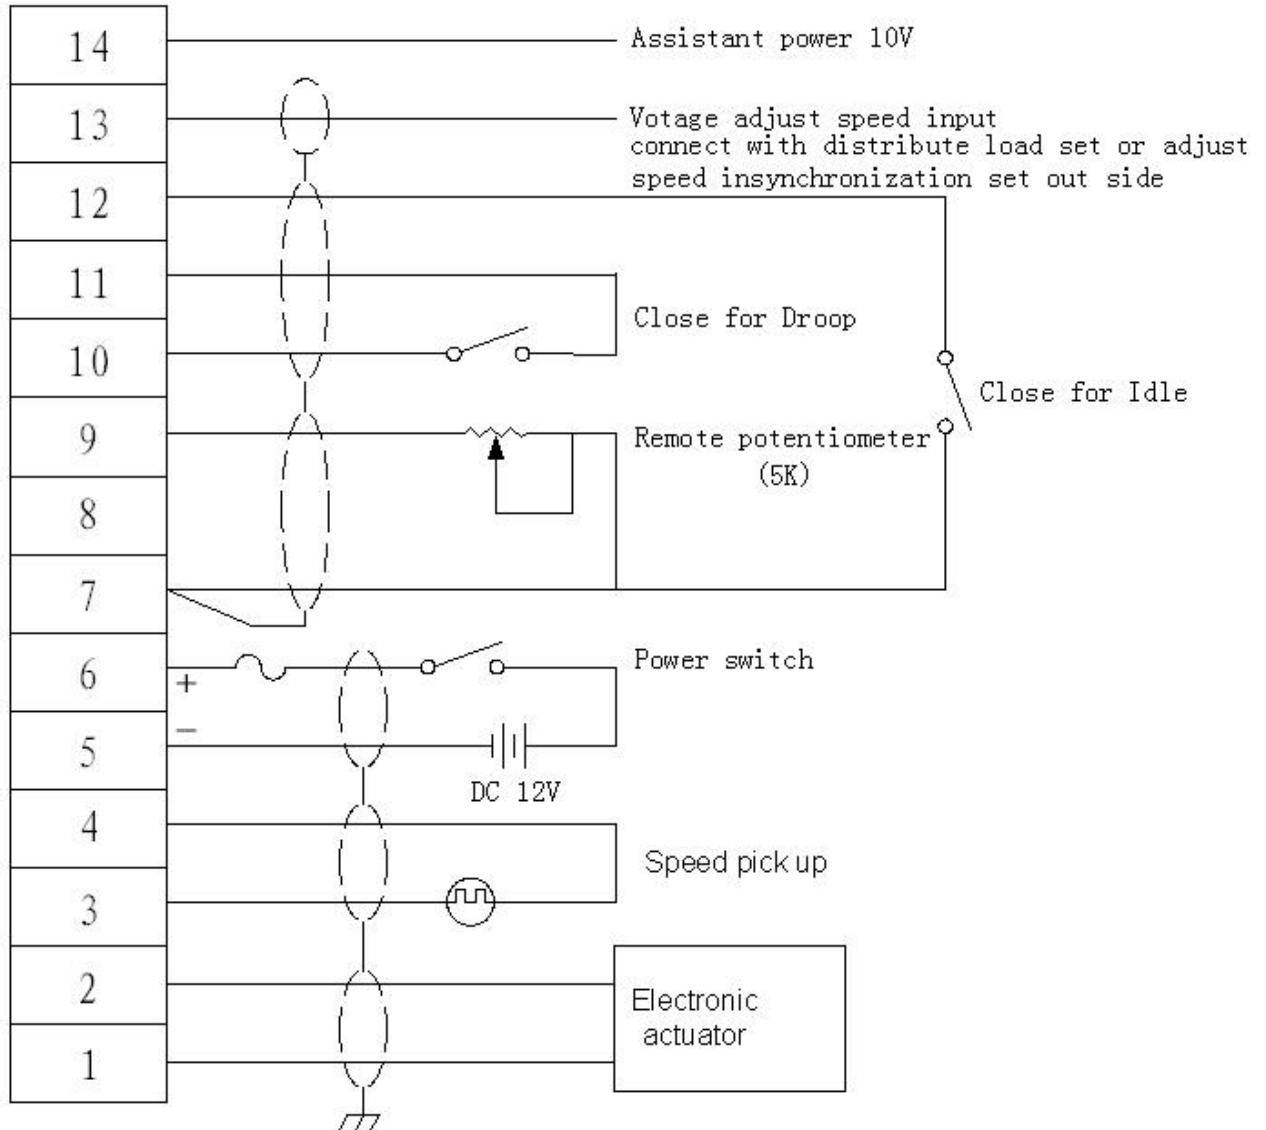

Figure 2.2 Connection diagram of the C2002 speed control unit for normal generator set
2. 1. 3. 1 C2002 speed control unit's connection diagram for normal generator set refers to figure 2.2.